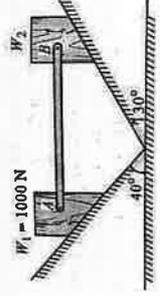

Fig.9
- 4 Two blocks W_1 and W_2 resting on two inclined planes are connected by a horizontal bar AB as shown in Fig.9. If W_1 is equal to 1000 N, determine the maximum value of W_2 for which the equilibrium can exist. The angle of limiting friction is 20° at all rubbing faces.